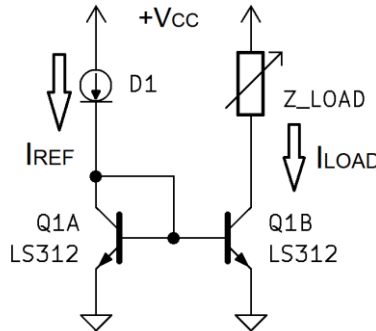

Figure 8
3. Current source plus current mirror. Figure 8 shows a circuit similar to that which appears in Figure 2 and represents a typical sub-circuit. This uses a constant current diode (D1) to force a reference current through the left half of a current mirror (Q1A). That current is matched as I_{LOAD} in the right half of the current mirror (Q1B) and through the Z_{LOAD} . Z_{LOAD} represents the following amplification or frequency shaping stages used in typical sensor circuitry. Note that Q1A and Q1B are fabricated on the same silicon chip and are therefore matched devices (matched V_{BE} and β). This is essential to ensure that the current mirror works as designed.